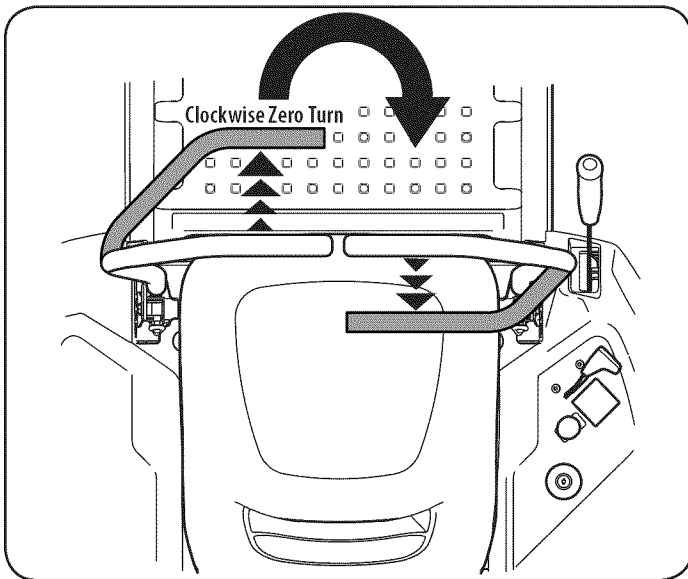

Figure 19
2. To turn clockwise, move the left control lever forward while simultaneously moving the right control lever rearward. See Figure 19.